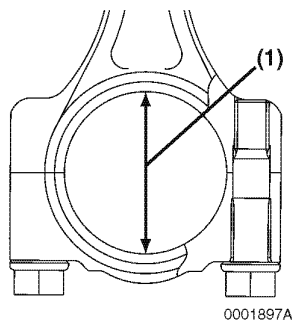

Figure 8-55
2. Inspect the bearing insert for separation or damage (**Figure 8-55**).
4. Measure the inside diameter (**Figure 8-55, (1)**). Record the measurement. Compare the measurement with crankshaft rod journal outside diameter to calculate oil clearance. See *Crankshaft* on page 8-7 and *Piston* on page 8-9 for specifications.